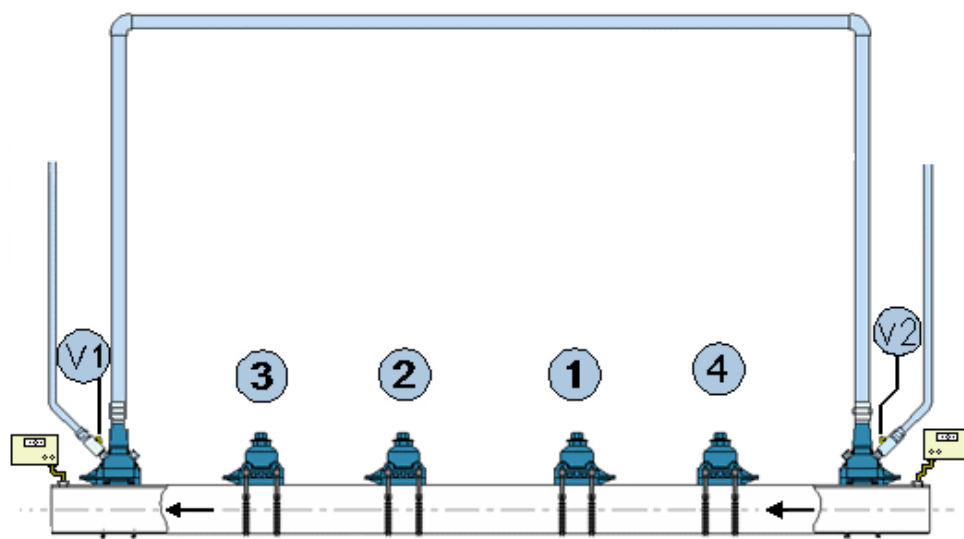

Figure 60- Assembly of Bypass and Bag Stop Equipment
14. Assemble the bag stop equipment as shown in Figure 60.